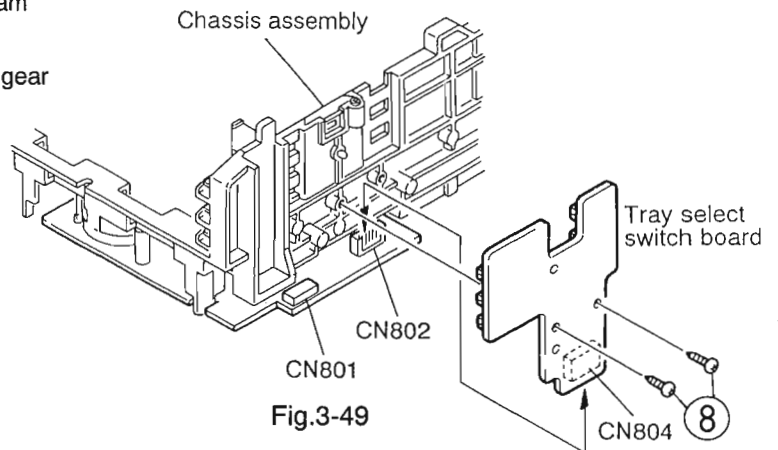

Fig.3-49
3. Remove the two screws ⑧ retaining the tray select switch board (See Fig.3-49).